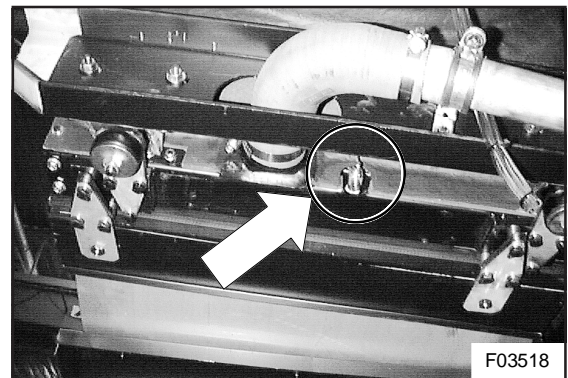

Figure 3: Location of radiator draincock
- 6 Open radiator draincock (see Figure 3).